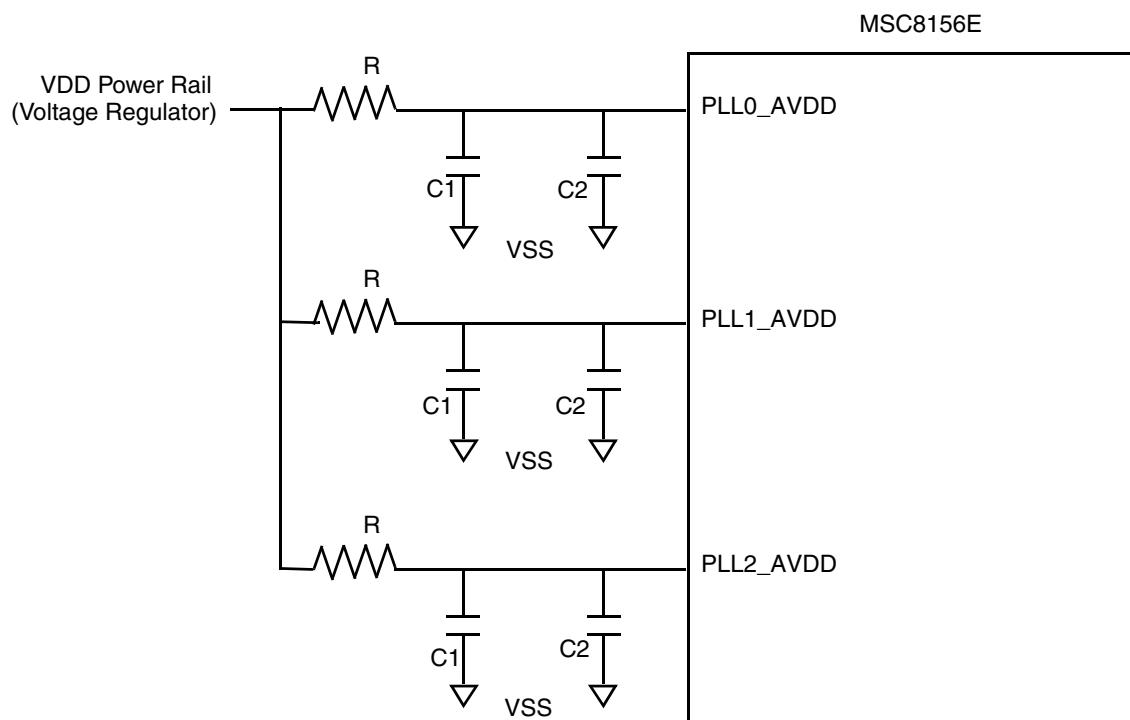

Figure 37. PLL Supplies
- Couple inputs PLL1_AVDD, PLL2_AVDD and PLL3_AVDD with the VDD power rail using an RC filter (see Figure 37).
Each global PLL power supply must have an external RC filter for the $\text{PLL}_n\text{_AVDD}$ input (see Figure 37) in which the following components are defined as listed: